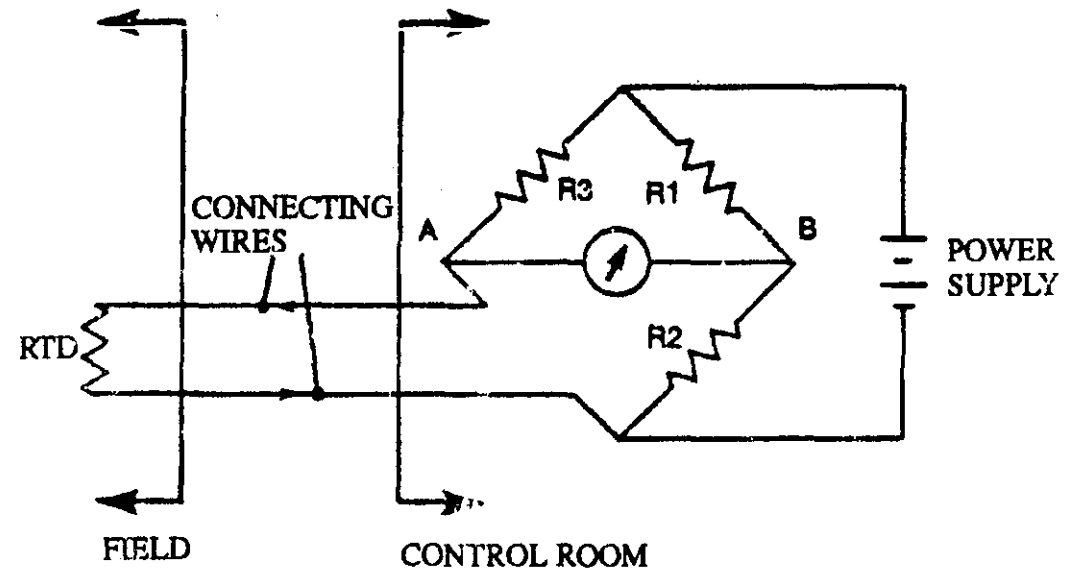

Figure 7: A Wheatstone Bridge Temperature Detector For RTD.
- In applications that require high accuracy and linearity, platinum RTDs are used as process temperature monitors. To detect the variations of resistance of the RTD, a temperature transmitter in the form of a Wheatstone bridge can be used. (Figure 7).